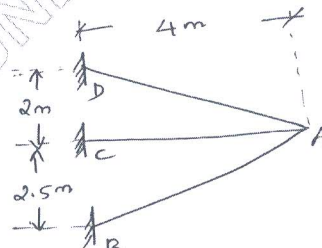

Fig.Q.8
- 8 Analyze the truss by flexibility method member AD is too long by 3mm, AC is too short by 5mm AB is too short by 8mm. Member AB is subjected to an increase in temperature by  $25^\circ\text{C}$ . AE is constant for all members. Take  $\alpha = 12.5 \times 10^{-6}/^\circ\text{C}$ .  $AE = 250 \times 10^3 \text{ kN}$ . Refer Fig.Q.8. Choose AD as redundant. (16 Marks)